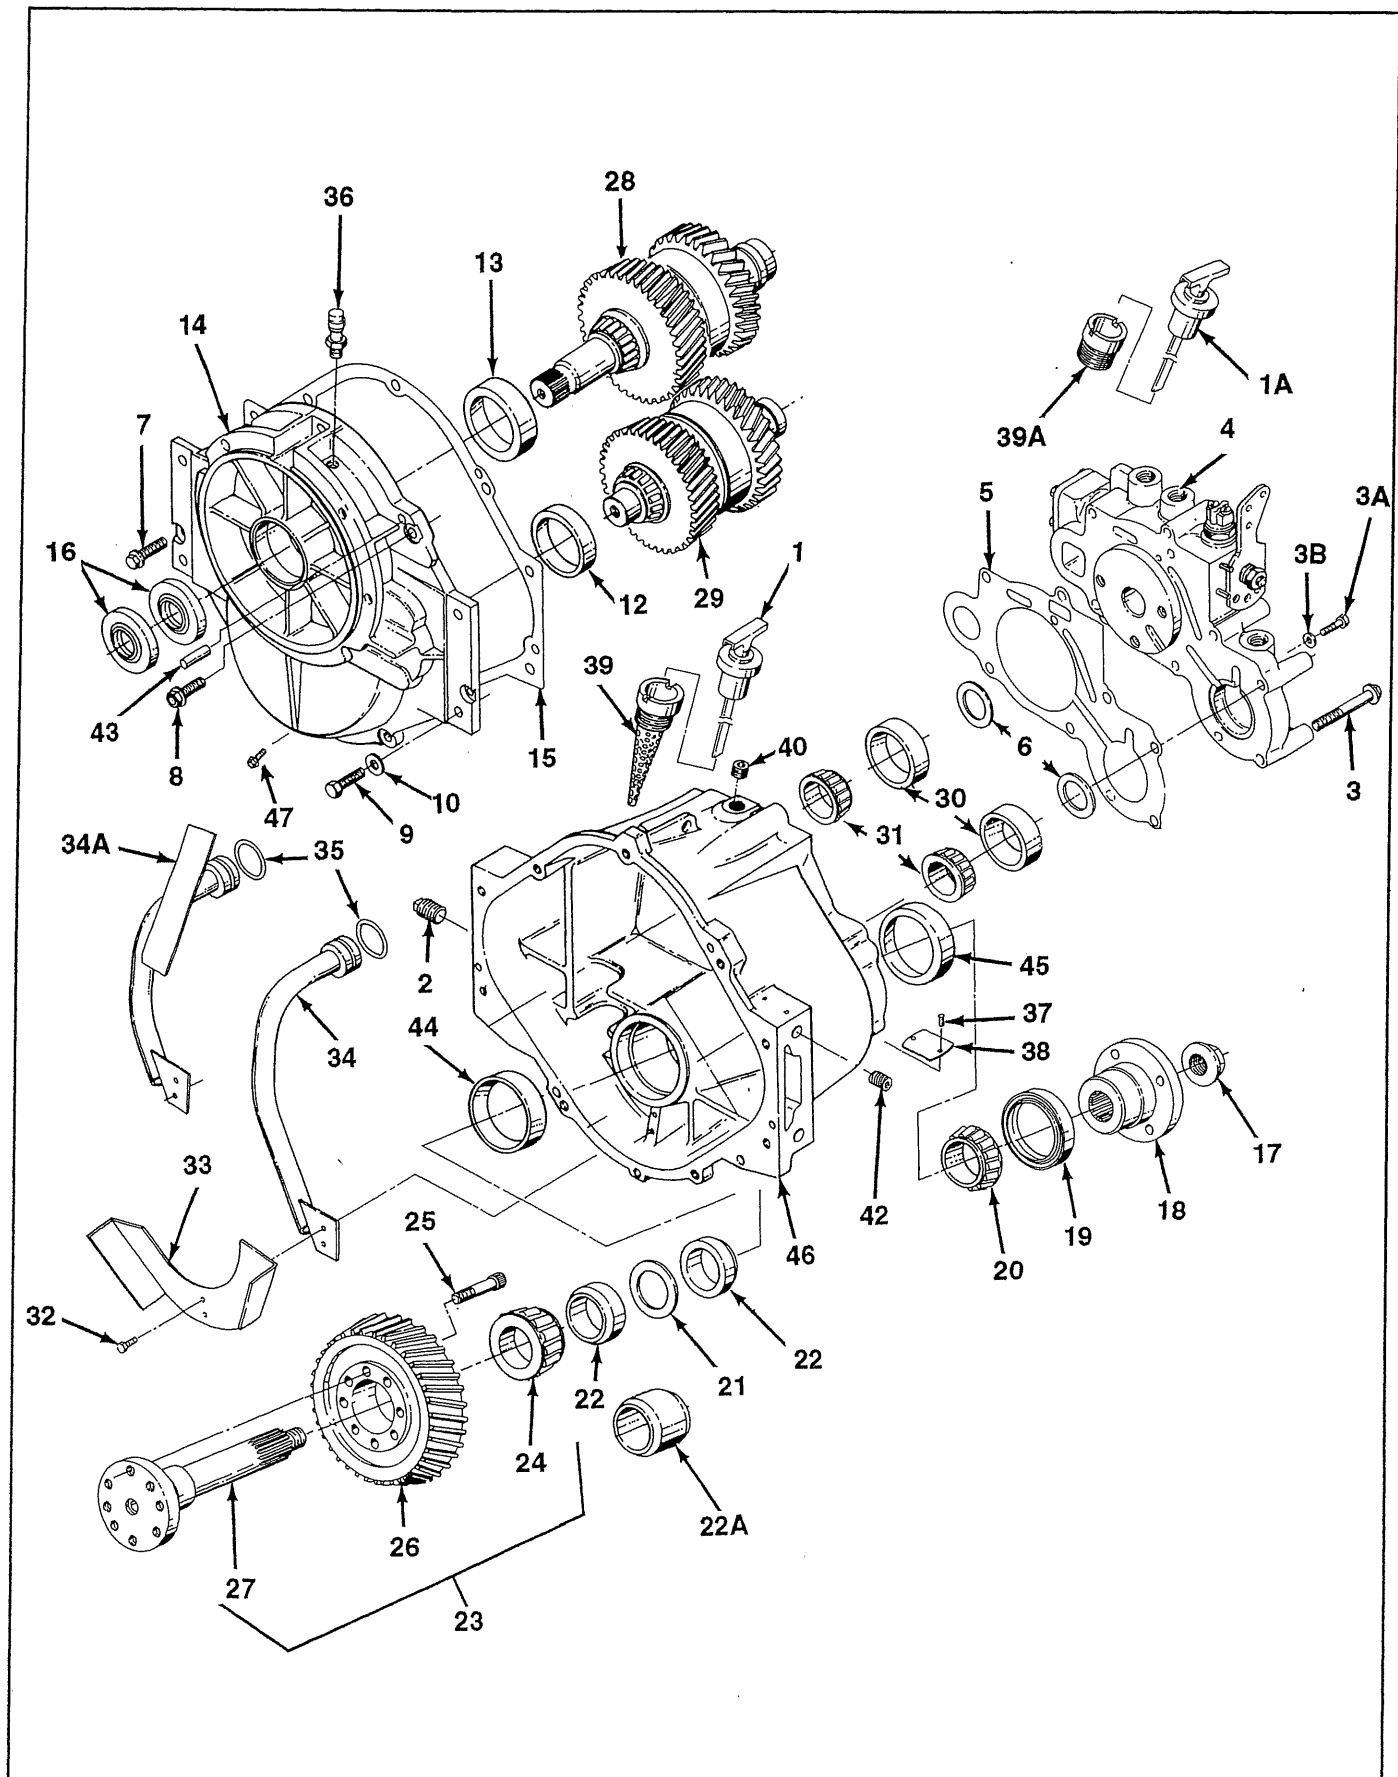

Figure P-1. Transmission Assembly
Ref - Reference. This is used for subassemblies where the quantity required is listed on the main assembly parts list, figure P-1.
### PARTS LIST FOR FIGURE P-1
**PARTS LIST FOR FIGURE P-1**
## PARTS LIST FOR FIGURE P-1